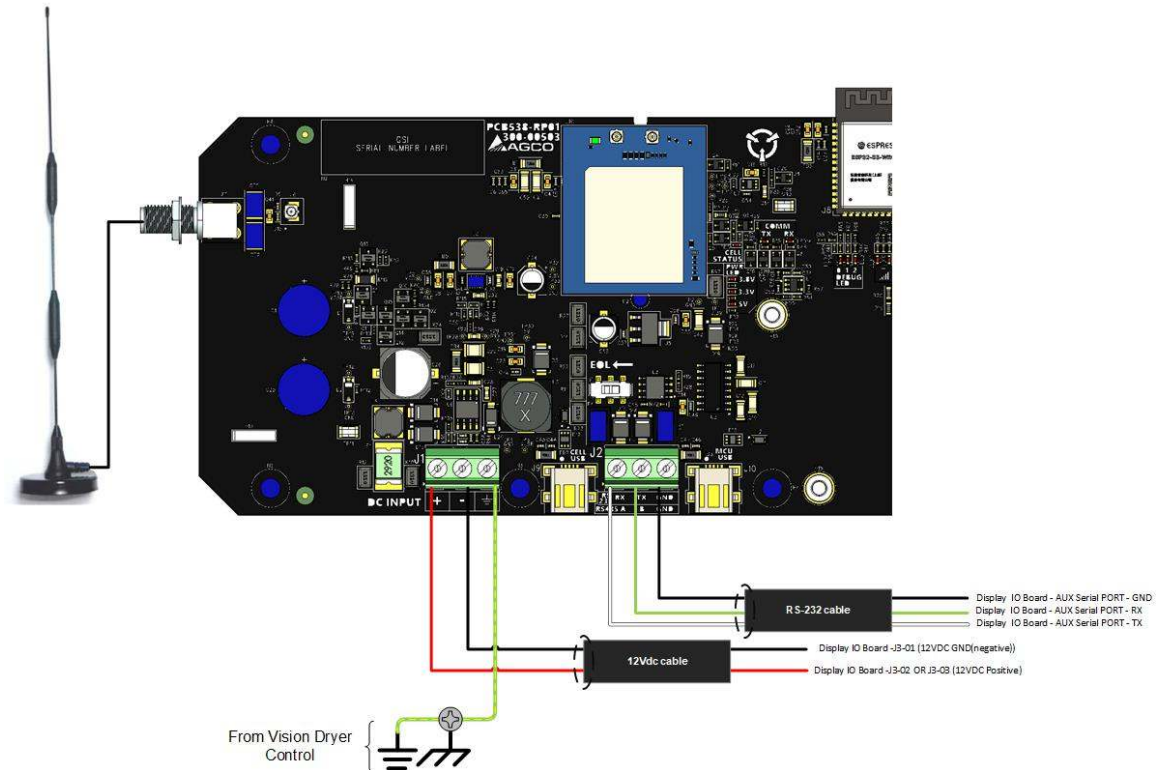
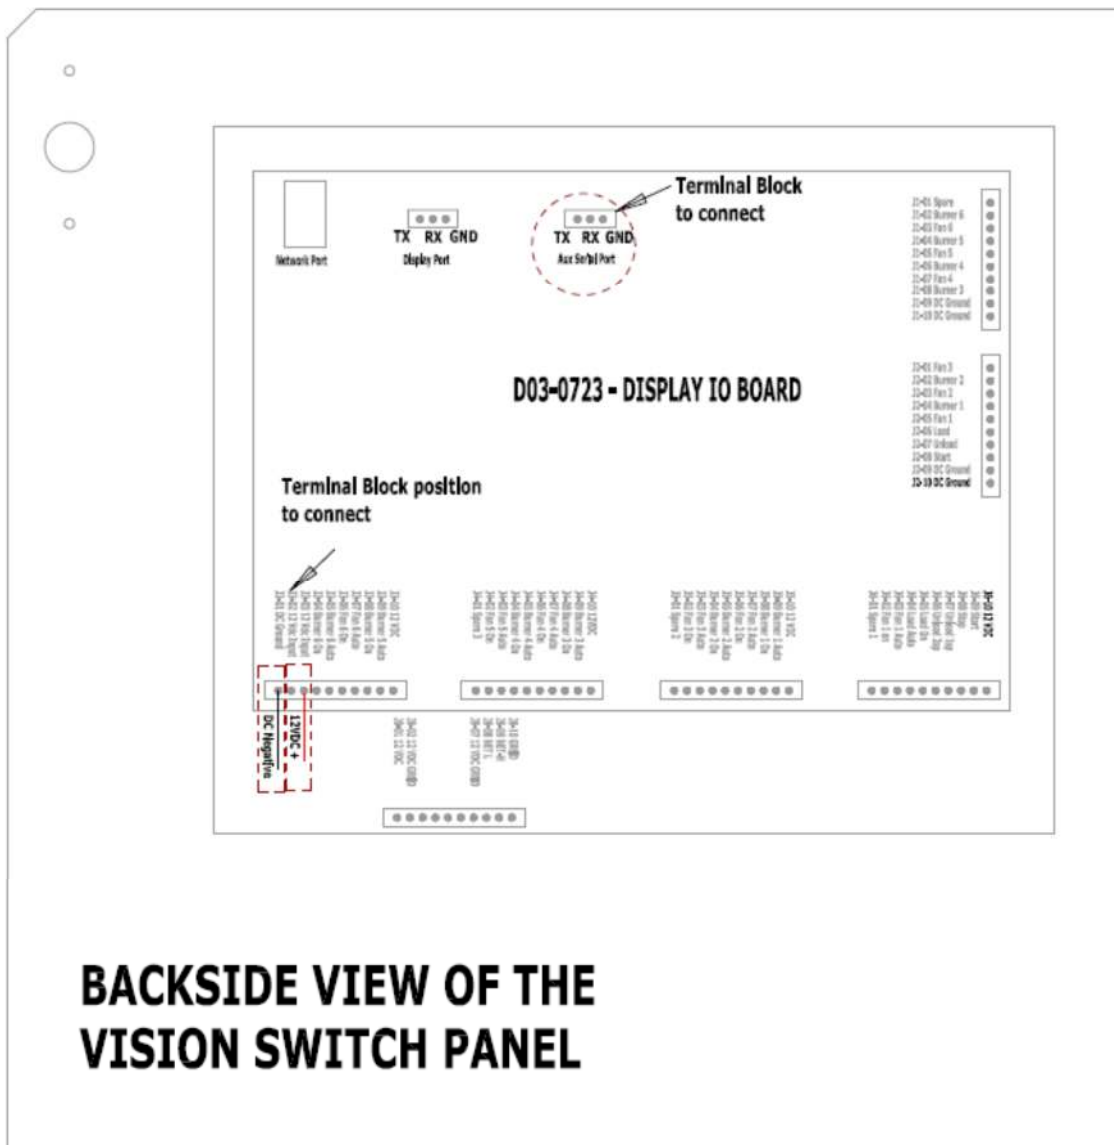

Fig.1 Vision Connect wiring diagram
Fig.2 Dashed red circle indicates area to connect AUX Serial Port, Dashed red rectangles indicate area to connect 12VDC wires
- Once the cable gland has provided a seal to the enclosure from any external dust and moisture, connect the SMA RG58 antenna cable to the Vision Connect card SMA connector (Look at **Fig. 1** below).
1. From Installation kit, locate the 3 wires cable with a pre-wired terminal block plug-in on the end. On the circuit board (display IO board) that is mounted on the back of the Vision Controller display on the switch panel door, locate the 3 empty positions terminal block header that will match the 3 positions terminal block plug-in on the end of the cord (Look at **Fig. 2** below). The 3 positions terminal block header is labeled **AUX Serial PORT**. Insert the 3 positions terminal block plug-in into the 3 positions terminal block header. For the other cable end, connect the three wires according to the Vision Connect wiring diagram (Look at **Fig. 1** above)
2. From Installation kit, locate the 2 wires cable. The RED and BLACK wires will be attached to this circuit board (display IO board) and will provide 12VDC to the Vision Connect Card. Please be aware these wires are polarity sensitive. Use the wiring diagram in **Fig. 1** above how to connect it and use the **Fig. 2 above** for a visual reference to help located and identify the correct terminals being used.